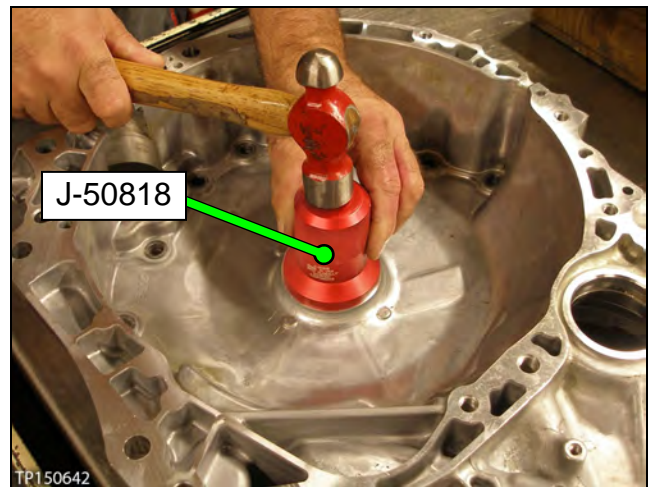

Figure 1I
1. Install a new torque converter seal with Seal Installer J-50818 (Figure 1I).